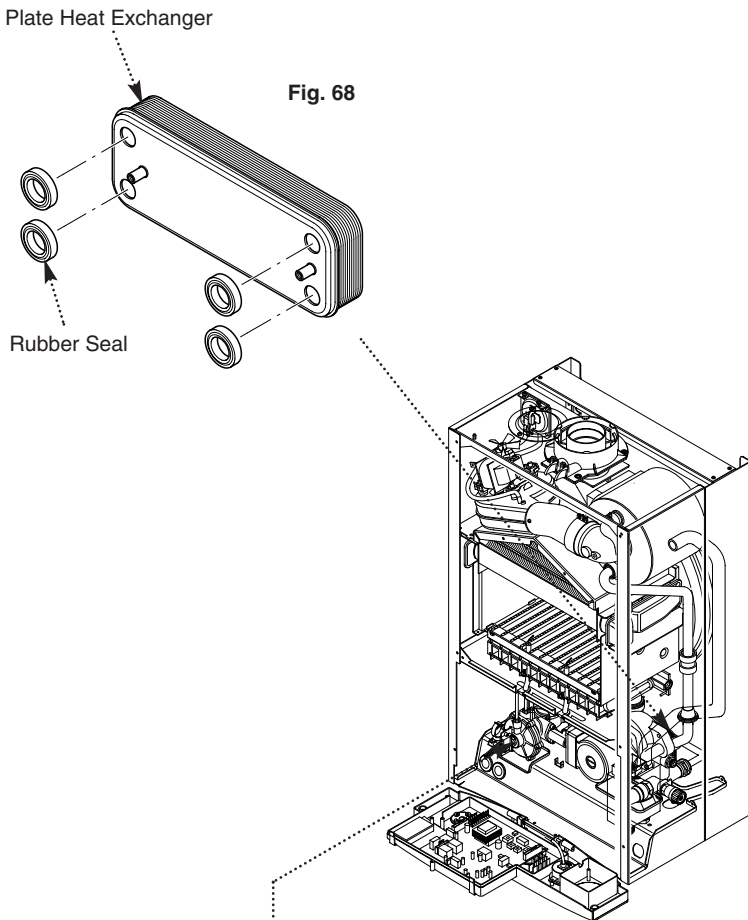

Fig. 68
12.20 Plate Heat Exchanger (Fig. 68)